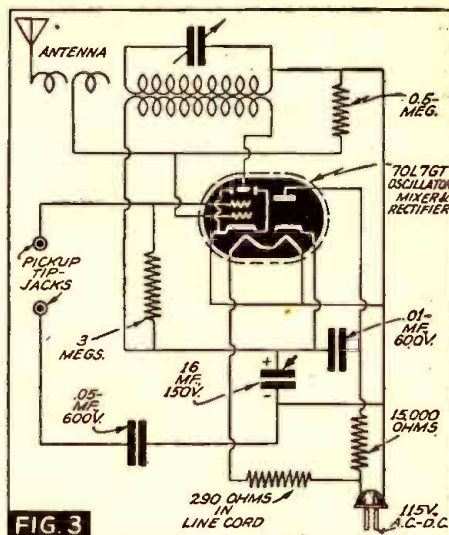

FIG. 3
**(FIG. 3.) OUTPUT TRANSFORMER USED AS FILTER SEGMENT**
As indicated in Fig. 3, the output transformer primary is tapped near the "B+" end, where all other high-voltage connections are made except that to the I.F. plate. In this way a neutralizing voltage is produced at the power amplifier plate through autotransformer action, which compensates any ripple voltage entering this tube at its grid. It is similar to a former circuit described using this tap as the "B+" input from the rectifier with a somewhat different plate supply arrangement.
Figure 3 is a circuit of a 1-tube phono-oscillator using a 70L7GT tube. As you know, this tube actually is 2 tubes in 1. The diode section is used for power and the pentode section is used as oscillator.